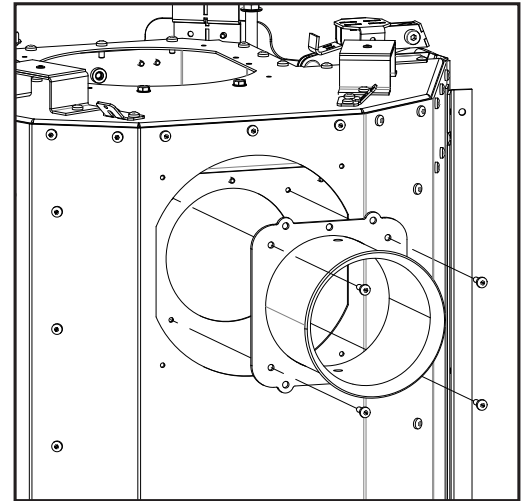

Figure 73: Exhaust Spigot Attachment
10. Attach the exhaust spigot to where the block-off plate was removed (see Figure 73).